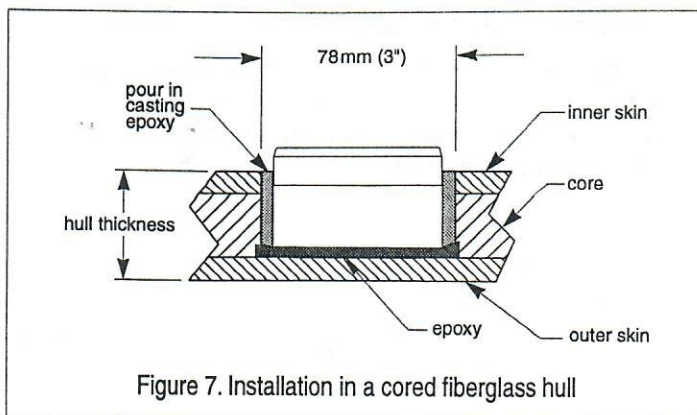

Figure 7. Installation in a cored fiberglass hull
1. Using a 78mm or 3" hole saw, cut through the inner skin and the core at the selected location (see Figure 7). The core material can be very soft. Apply only light pressure to the hole saw after cutting through the inner skin to avoid accidentally cutting the outer skin.